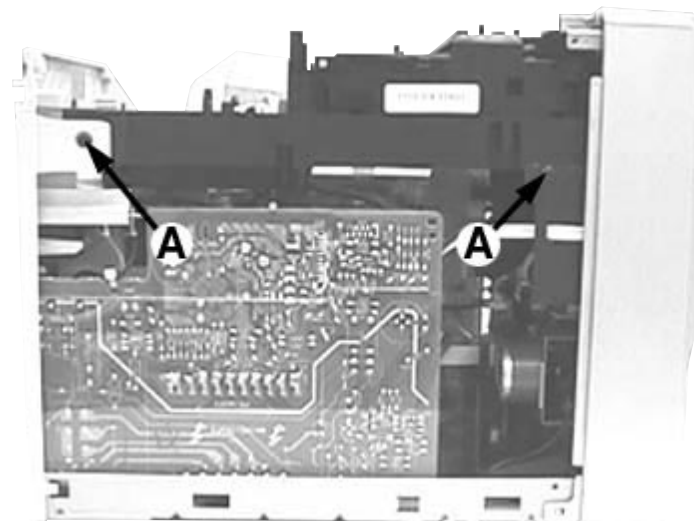

Figure 4
- 6) Loosen 4 screws A (see Figure 4) to remove the Bracket Module Mounting (pos 156) and Universal Loader (pos 1103).